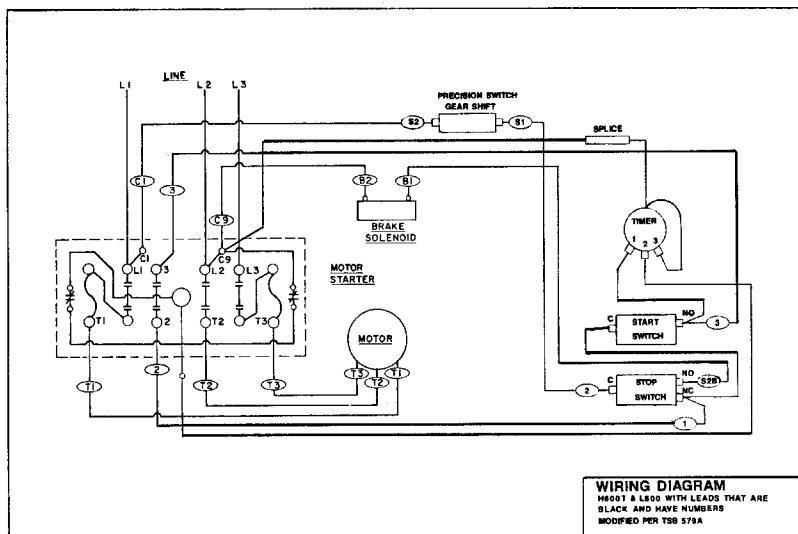

Fig. 4
- B. Connect the leads, refer to Fig. 4, to the new switch plate assembly as follows: